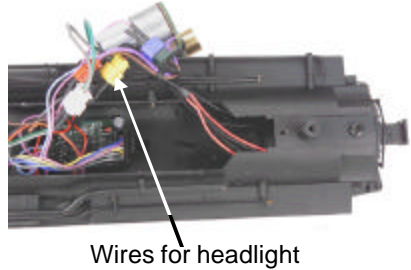

Figure 8
1. To replace the headlight in this model you will need to follow the boiler disassembly instructions on pg. 12. Once the boiler is removed you can access the wires for the headlight by removing the connector boxes (see figure 8).